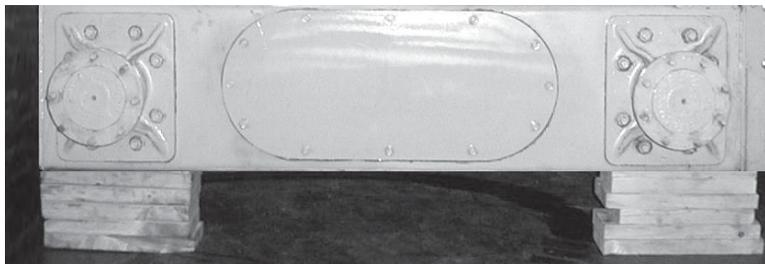

Fig. 37: Loader Properly Blocked (Tires and wheels removed to show blocks)
- Stack wooden blocks under the flat part of the loader chassis. They should be parallel to, but not touch, the rear tires (Fig. 37).